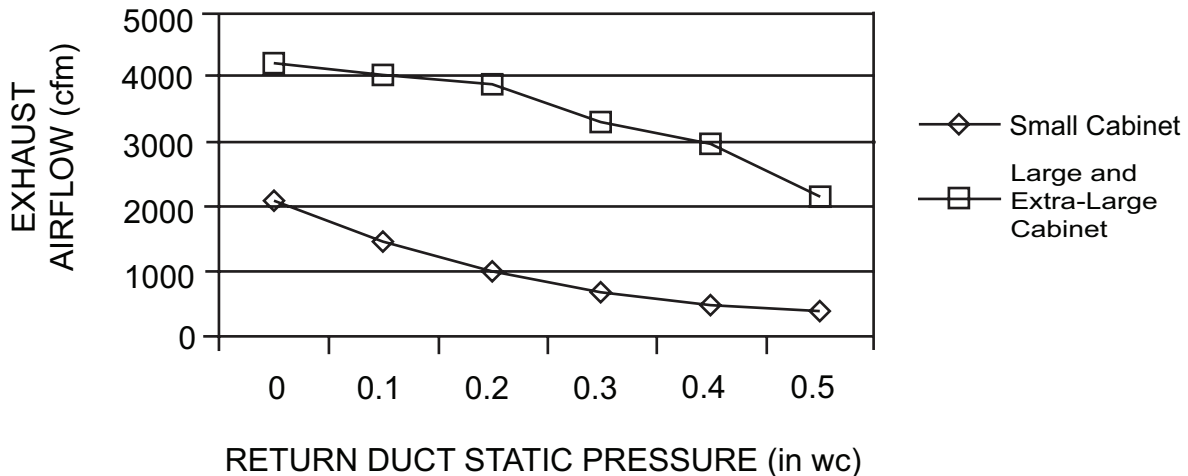

Figure 13 - Power Exhaust Performance
8. Test power exhaust operation by setting the power exhaust set point on the EconoMiSer controller to 0%. Power exhaust performance is shown in Fig. 13.